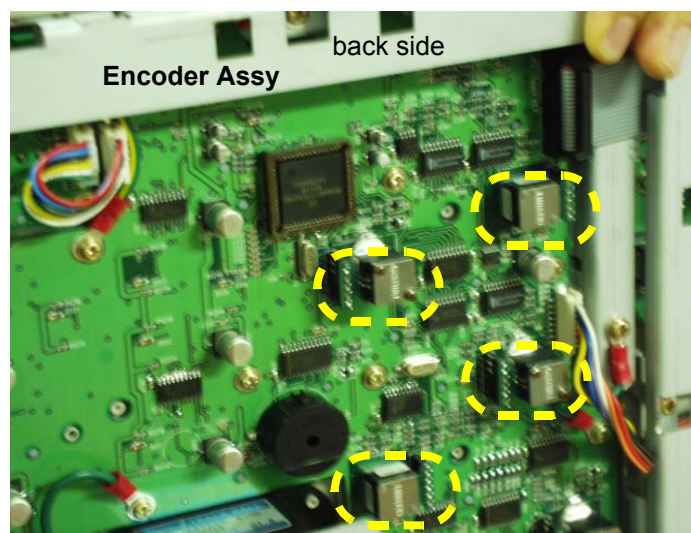

Figure 8-57 Removing Encoders
- 4.) Disconnect each of the encoders from the back side of the keyboard. Refer to Figure 8-57 on page 8-19